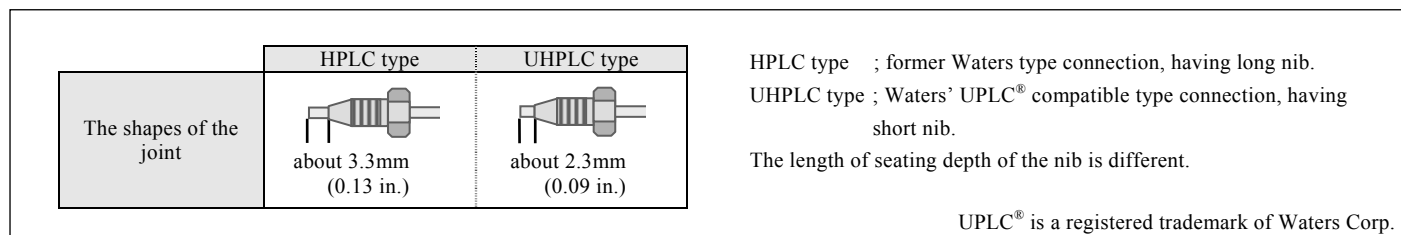

Figure 3. Difference between HPLC type and UHPLC type fitting.
4. The connection type of COSMOSIL Column is the same type (HPLC type) as the former Waters compatible type. In the case of using systems having UHPLC type fittings, please use suitable or PEEK fittings to connect COSMOSIL Column. [Fig.3]